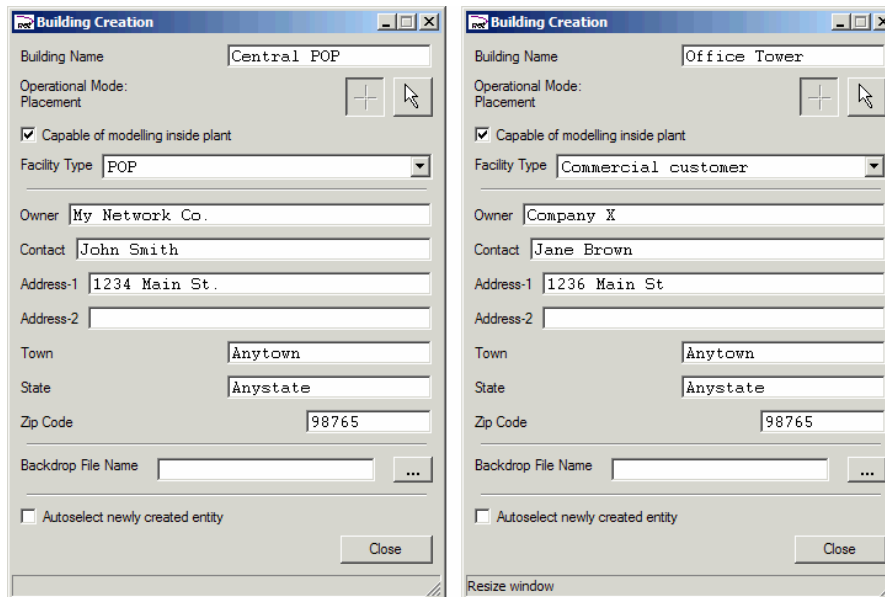

Figure 214 – ISP Building Creation Dialogs for POP (left) and Customer (right)
- Fill in the fields of the Building Creation dialog with the values shown in Figure 214, below (Note: for this exercise, it is important to ensure that the **Capable of modeling inside plant** check box is **checked** for both buildings)
- Ensure that the “Placement” cross hair is selected in the **Building Creation** dialog, as shown in Figure 214, above, and also here:
- When you have added the POP, repeat items 2 to 4 above for the Customer building. To simplify linking up the two buildings later, place the customer site close to the POP, similar to the example shown below. (Of course, if you would like to run a geographically realistic outside plant network between the two buildings using the steps covered in Part A, then by all means do so!)
- When you have added both buildings, click the **Close** button shown in Figure 214 to dismiss the **Building Creation** panel.